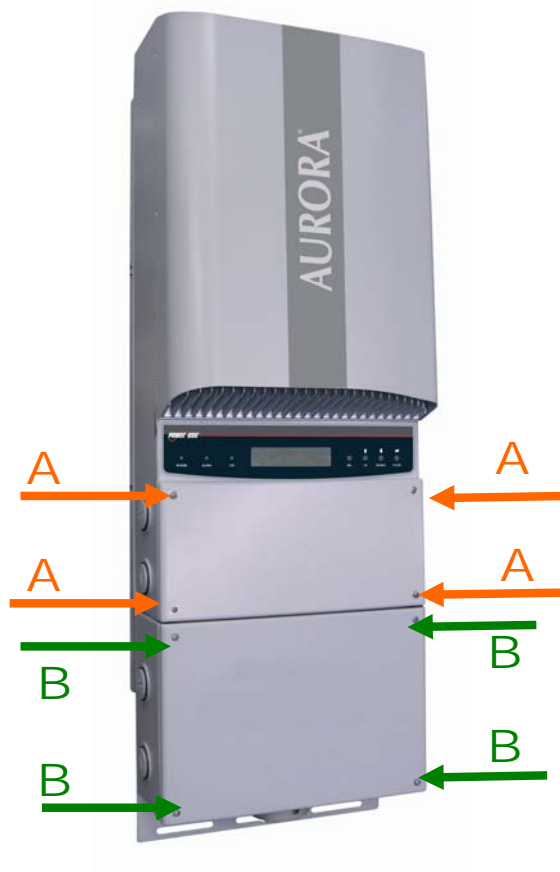

Fig.10 - Aurora Inverter with Front Panel and DC Switch
To remove the front cover, loosen the 4 screws shown in fig 10 pos "A", using the flathead screwdriver provided in the box with the inverter.
Step 4: Open the inverter cover (4 screws in pos "b" of fig. 10) and connect the signal cable (optional). Pass the cable inside the Switch Box through the input knockouts (see pos "D" fig.11 "SB-01 – DC Switch Box Layout"), and then inside the inverter through the cable gland placed in the upper side of the Switch Box; finally screw the cable to the appropriate terminal block inside the inverter.
Step 1: Remove the Switch Box front panel (remove the 4 screws in pos "B" of Fig. 10).